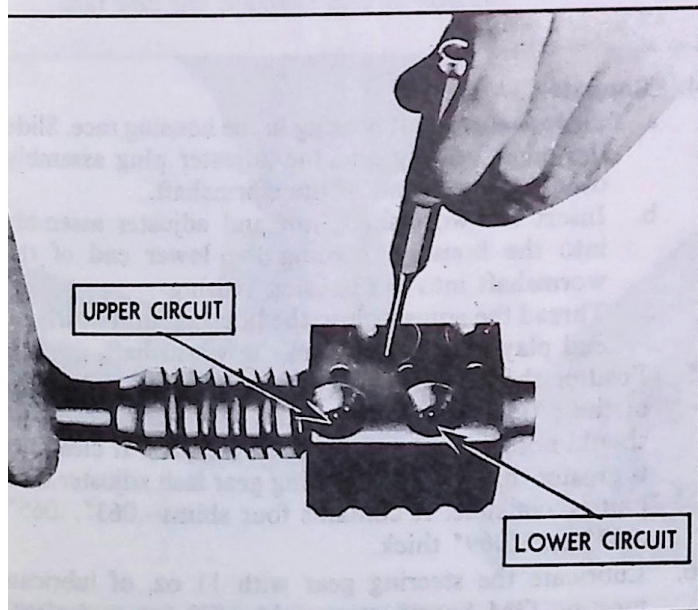

Fig. 12—Filling Ball Circuits—Corvette
5. **Corvette only (figs. 12 and 13):**
NOTE: In cases where the balls are stopped by the end of the worm, hold down those balls already dropped into the nut with the blunt end of a clean rod or punch (fig. 12) and turn the worm in the reverse direction a few turns. The filling of the circuit can then be continued. It may be necessary to work the worm back and forth, holding the balls down first in one hole and then the other, to close up the spaces between the balls and fill the circuit completely and solidly.